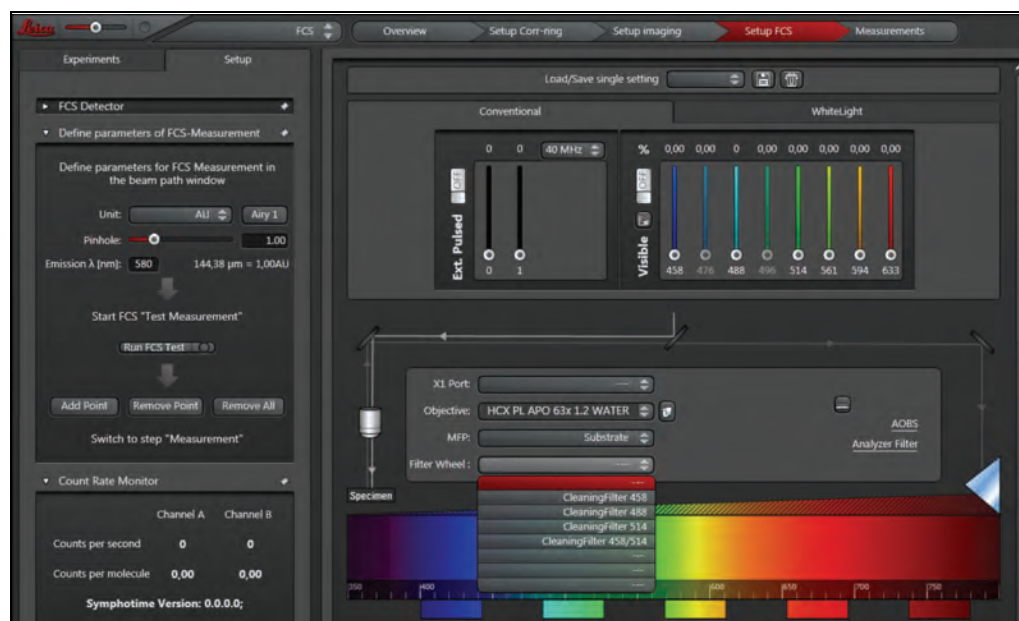

Figure 172: Controlling the FCS filter wheel
3. In front of the argon laser, there is an FCS filter wheel for additional clean up of selected laser lines and for further attenuation. When selecting a laser line by the AOTF setting, the FCS filter wheel is automatically moved to the right position. You can check the position in the pull-down menu from **Filter Wheel** in **Beam Path Settings (Figure 172)**. Other laser lines are not affected by the FCS filter wheel.
Due to the configuration of the FCS filter wheel, the following laser lines are not available for FCS and are therefore grayed out in the software (**Figure 172**):